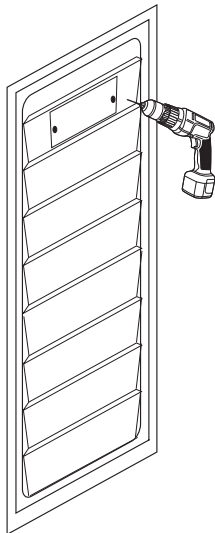

fig.2
2. On the marked hole locations, drill out two holes using dia. 5/32" (4.2mm) drill bit as shown in fig.2. These holes will be used to attach the ventilation cover with the ventilation cover pins (VCP).